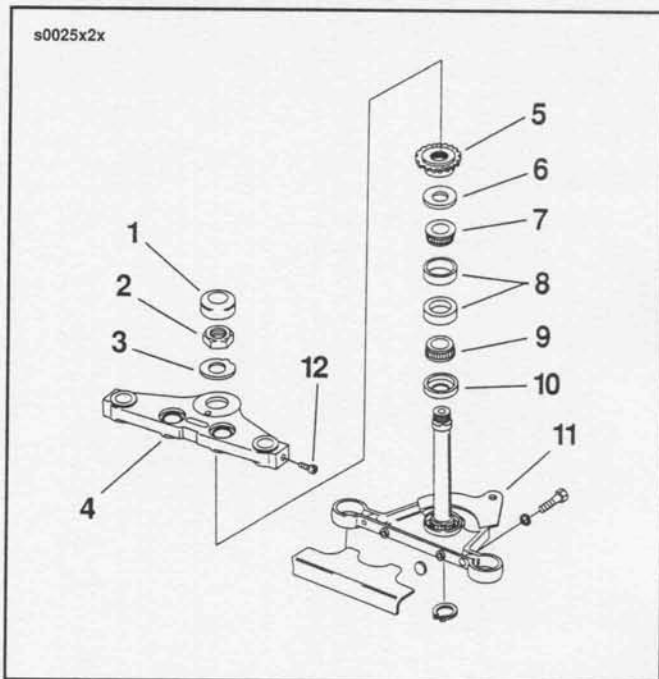

Figure 2-80. FXSTC Steering Head Assembly
3. See Figure 2-80. Remove the brake hose bracket from the bottom of the fork stem and bracket (11).
1. See Figure 2-80. Insert the fork stem bracket assembly (11) into the frame steering head and install the upper bearing and dust shield (6). Secure with the adjusting nut (5). Tighten adjusting nut until the bearings have no noticeable shake. Fork stem must turn freely from side to side.